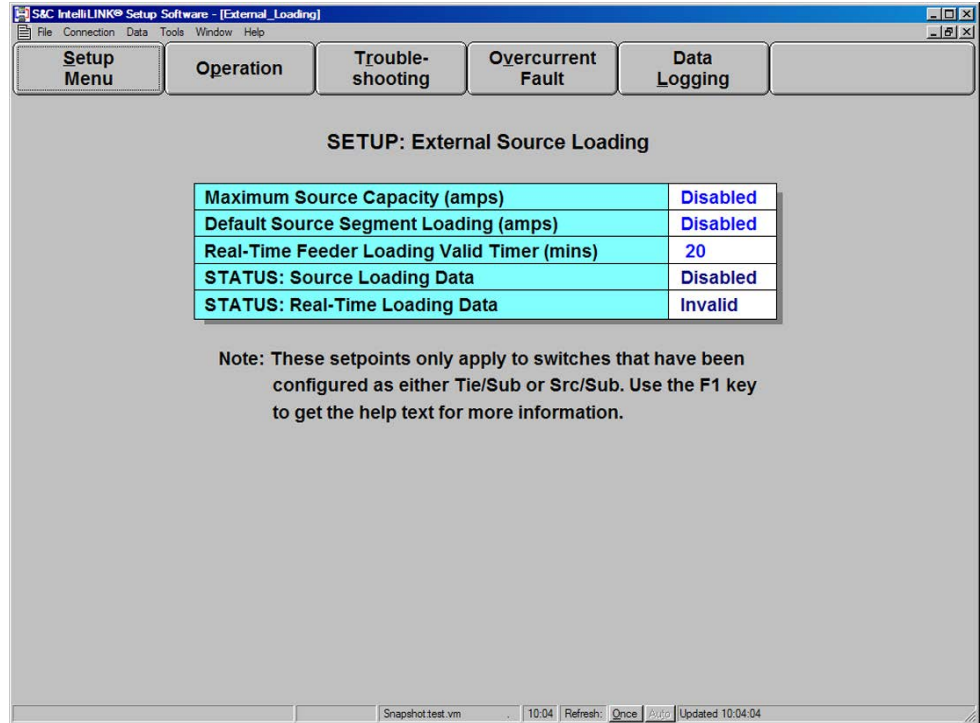

Figure 22. The *Setup>External Source Loading* screen.
STEP 17. At the *Setup Menu* screen, click on the **External Loading** button to display the *Setup>External Source Loading* screen. See Figure 22. Enter the correct values for this switch control.